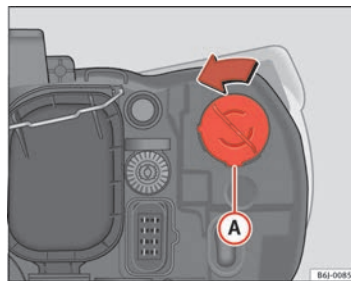

Fig. 136 Turn signal
- Rotate the bulb holder ⇒ fig. 136 Ⓐ to the left and pull.